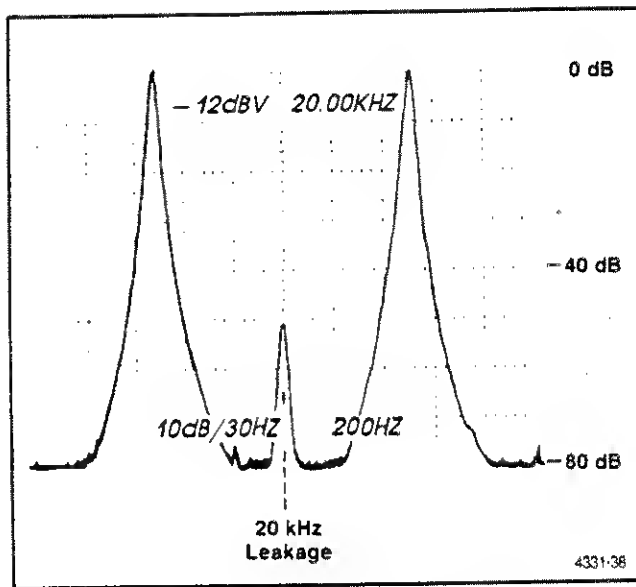

Fig 5-10. CCIF center frequency leakage.
a. Adjust the spectrum analyzer for a center frequency of 20 kHz (refer to Fig. 5-10). Rotate the Reference Level control to line up the displayed twin tones at 19.5 kHz and 20.5 kHz with the top graticule line (0 dB reference level).